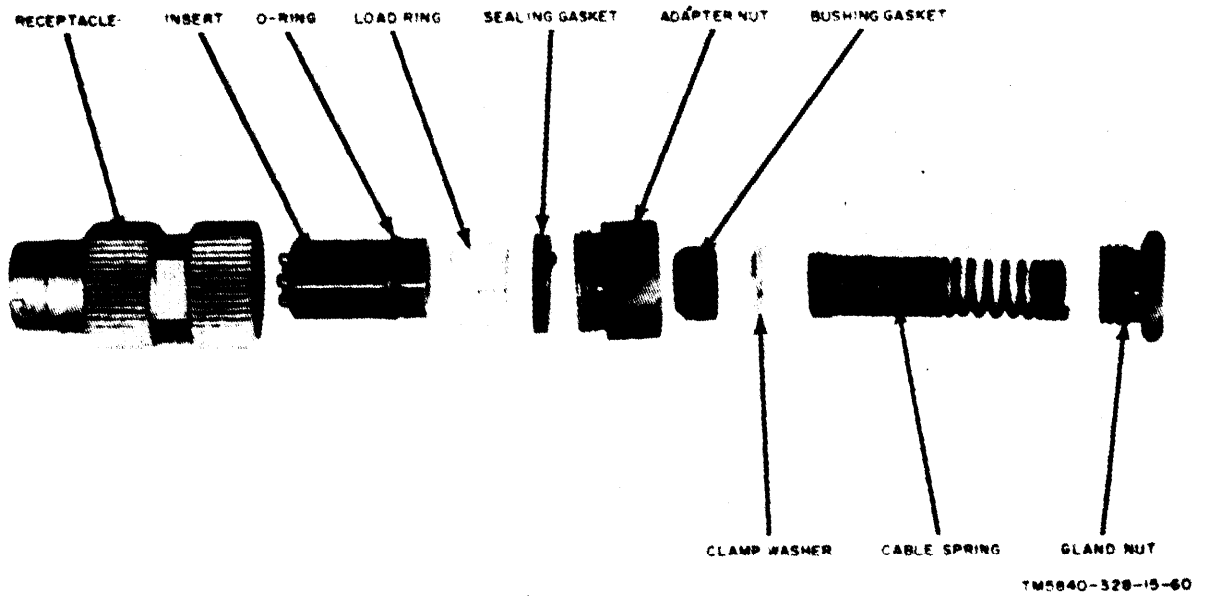

Figure 7-36. Miniature Audio Connector Assembly U-228/U, exploded view.
(5) Using screws, connect black wire to terminal of plug tip, and connect white wire to terminal of plug stem.
(6) Screw housing on plug.
b. *Connector.* Replace the connector (fig. 7-36) as follows:
(1) Unscrew gland nut from adapter nut, then slide gland nut, cable spring, clamp washer, and bushing washer back along wires.
(2) Unscrew adapter nut from receptacle shell, then slide adapter nut, sealing gasket, and load ring back along wires.
(3) Push insert out of shell.
(4) Unsolder wires from solder cups.
(5) Slide load ring, sealing gasket, clamp washer, cable spring, and gland nut off wires.
(6) Slide replacement connector gland nut, cable spring, clamp washer, bushing gasket, adapter nut, sealing gasket, and load ring onto wires.
(7) Solder black wire to cup A and white wire to cup B.
(8) Check that the wires are soldered securely and deeply enough in the cups so that no bare wire is exposed between the insert and the thermofit tubing.